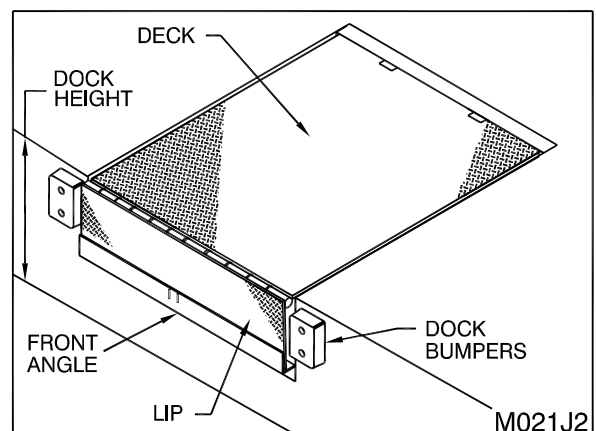

Figure 56: Deck in (Cross Traffic) Stored Position
1. Load or unload End Loads with the deck and lip in the stored position as shown in “Figure 54: Deck in (Cross Traffic) Stored Position” on page 49(See “Figure 56: Below Level End Loads” on page 50)
2. Release the raise button and walk onto the dock leveler to pull the (optional) below level release ring (located at the front of the dock leveler) the lip will extend to clear the lip keepers as the dock leveler lowers to the below level stops (See "Figure 56: Below Level End Loads" on page 50).